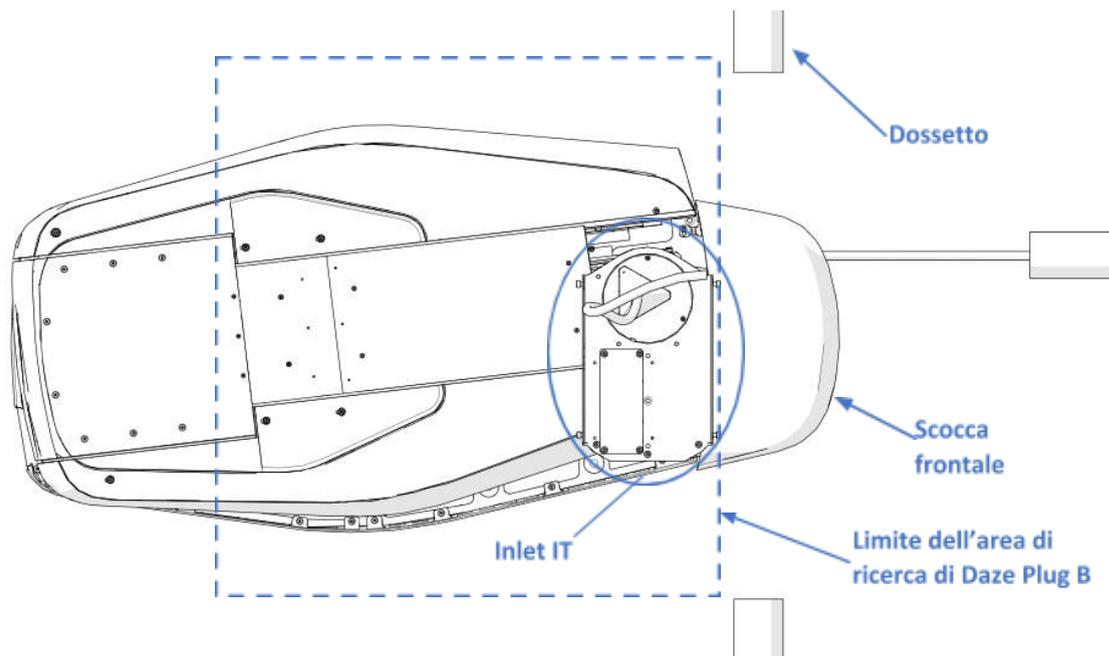

Figure 10. Top view of the Daze Plug B and Connected IT Inlets set.
- Pay attention to the reuse of the same screws for the various fixing points (Figure 10).